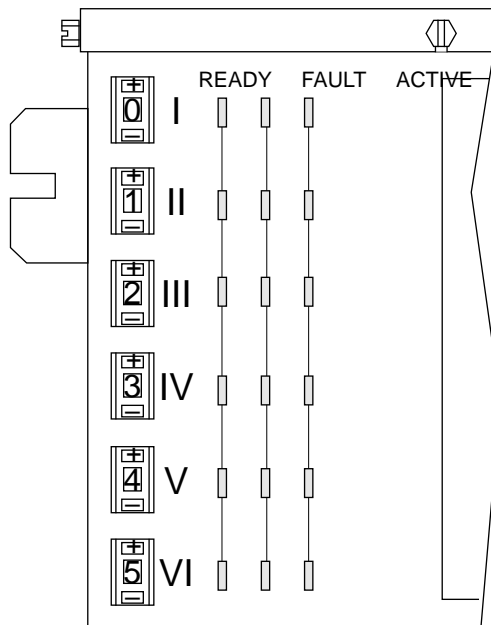

Figure 7-14 LEDs for Differential SCSI Tray
2. **Once you have powered on the system, the green Ready LEDs on the front of the disk tray will first flash on and off, then stay off for 0 seconds to approximately 2 minutes (depending on the drive ID), then blink while the drive is spinning up, and finally light up for each installed drive. See Figure 7-14.**